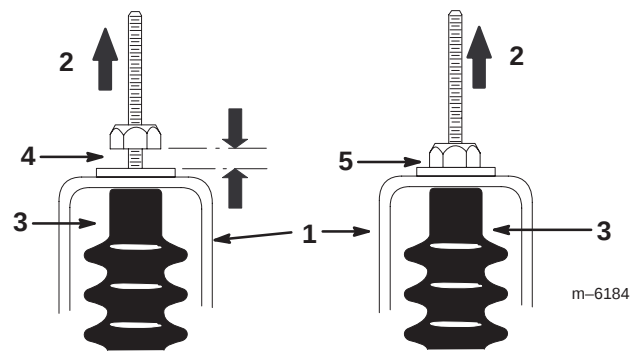

Figure 26
- 5. Pull up on each shift cable and ensure that there is no gap between the nut/washer and the neutral bracket (Fig. 26). If there is a gap, tighten the nut.